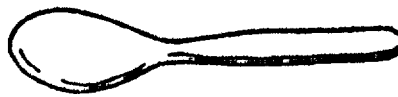

Figure 2-37. Spoon
- o. Spoon. The plastic spoon (See Figure 2-37) is used as a utensil when cooking or eating rations.